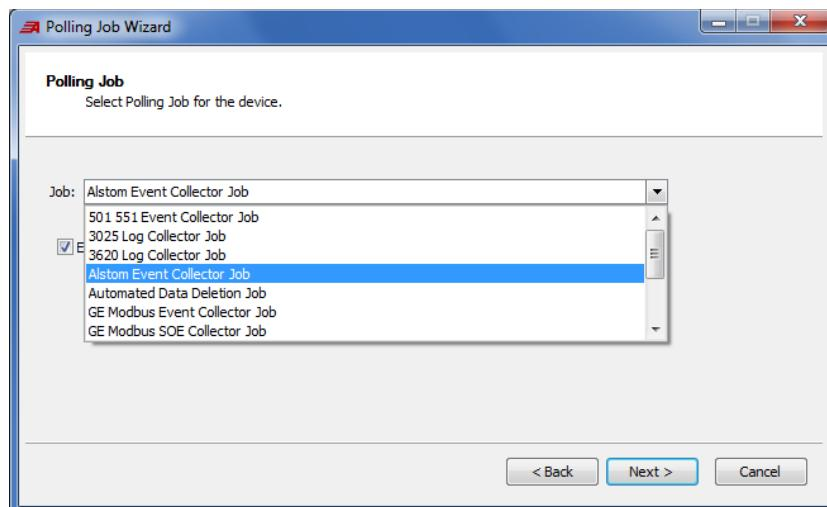

Figure 62 Polling Job Wizard
- Step 7. Remain in the **TEAM** tab. Select **Add** under the **Polling Jobs** section to start the **Polling Job Wizard**. On the **Polling Job** window, select **Alstom Event Collector Job** from the drop-down menu, as shown in *Figure 62*. Select **Next** to open the **Polling Frequency** window.